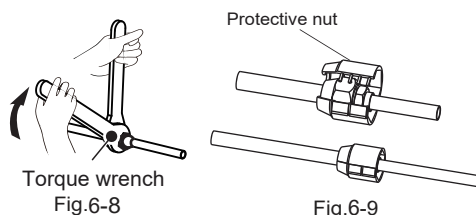

Fig.6-8
- Tighten it with a spanner and torque wrench (Refer to Fig.6-8)
- When connecting the refrigerant pipes, always use two wrenches/spanners to tighten or loosen the nuts! (Refer to Fig.6-8) Otherwise, it will cause damage of piping connections and leakage.